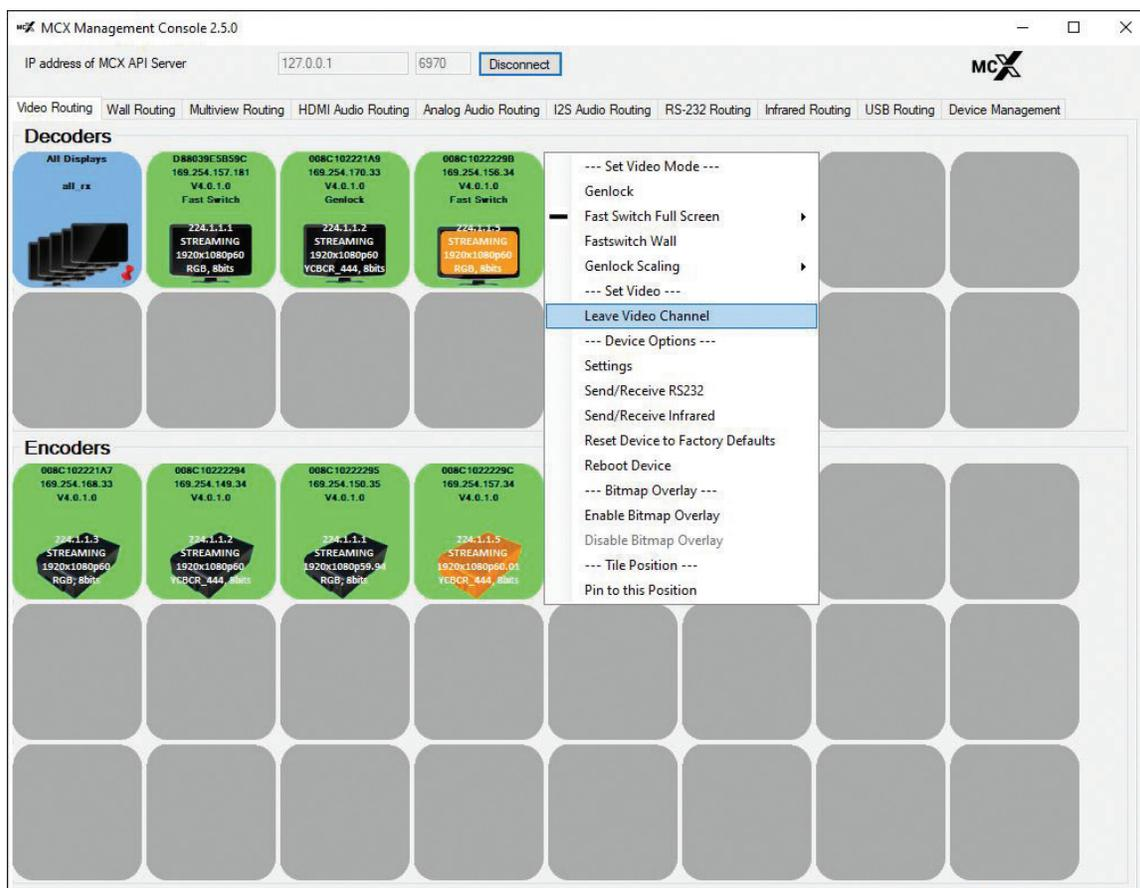

FIGURE 4-4. LEAVE VIDEO CHANNEL OPTION OF DECODER (RX) MENU
Refer to Figure 4-4, Leave Video Channel option of decoder (TX) menu.